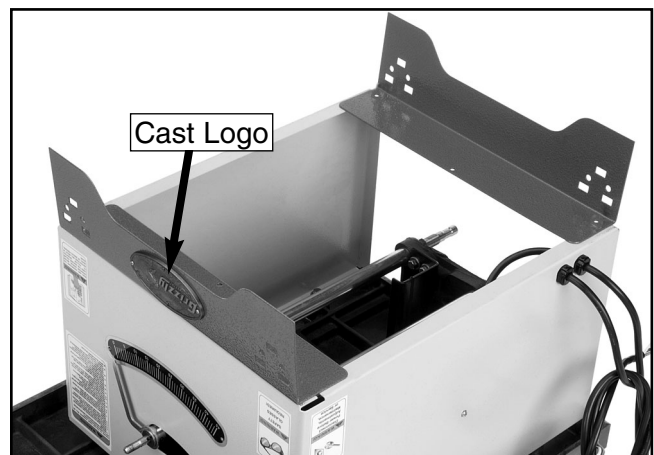

Figure 12. L side support installation.
2. Place the short "L" side supports on the bottom of the saw body (**Figure 12**). Note—*Make sure the cast logo is facing the front of the machine.*
6. Secure the flat side supports to the stand legs with 16 carriage bolts, 16 flat washers, 16 lock washers, and 16 hex nuts (**Figure 12**).